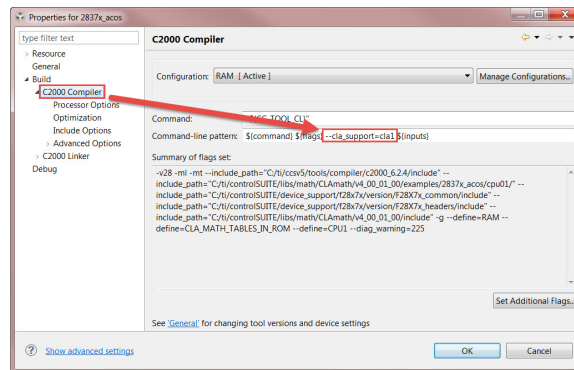

Figure 4.8: Turning on CLA support
- For devices that have a Type 0 CLA, enable the **–cla\_support** option in **Processor Options** to **cla0** as shown in Fig. 4.8
- For devices that have a Type 1 CLA, enable the **–cla\_support** option at the compiler command-line pattern to **cla1** as shown in Fig. 4.8